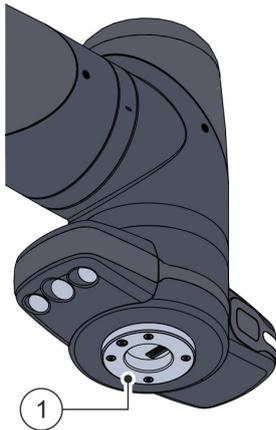

Fig. 60 Connecting flange
Depending on the robot application, various different owner tools can be connected to the media flange via the connecting flange Fig. 60/①.